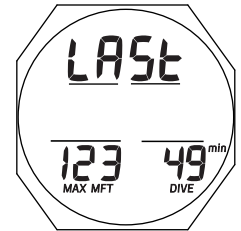

Fig. 95 - GAUG SURF ALT 1 (Last Dive's Data)
**GAUG SURF ALT 1**, information includes (Fig. 95):